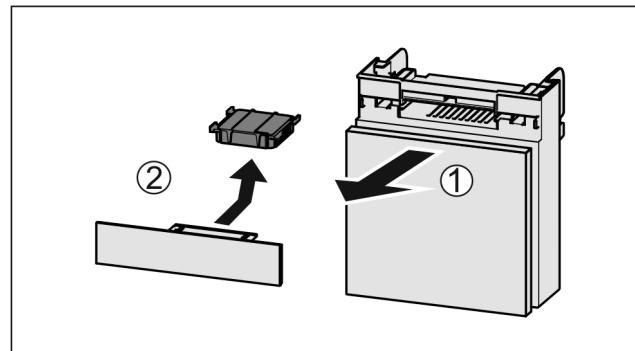

Fig. 151
- ▶ Pull out the compartment *Fig. 151 (1)*.
- ▶ Remove the carbon filter *Fig. 151 (2)*.